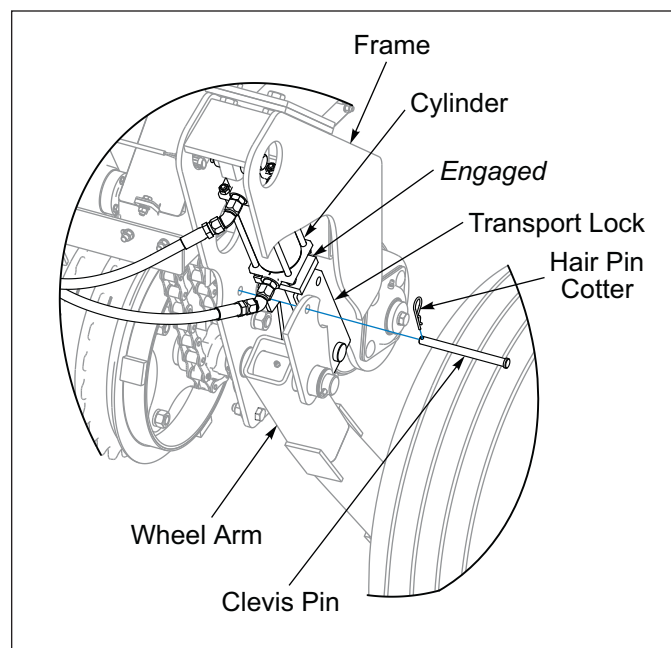

Figure 3-6: Transport Lock Engaged
5. If Transport Locks are not engaged, fully extend the Hydraulic Lift Cylinders and rotate Transport Locks in the engaged position over the Cylinder Rods. Secure with the Clevis Pins and Hairpin Cotters. **See Figure 3-6.**